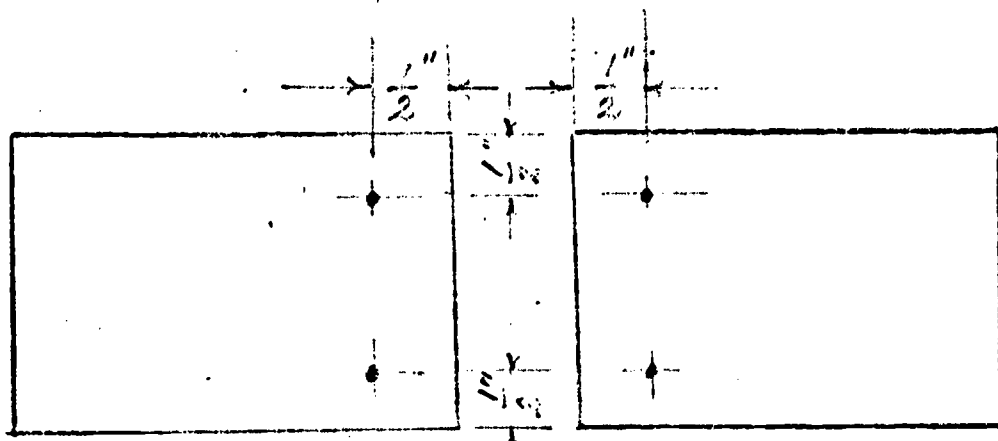

Fig. 2. Lay out drawing of four pieces.
1. Layout and center punch the four pieces of metal for drilling. Drill the two 26 ga. pieces for a 1/8" "pop" rivet with a 1/8" or No. 30 drill. Drill the two 16 ga. pieces for threaded "pop" rivets with a 1/4" drill. See Fig. 2.